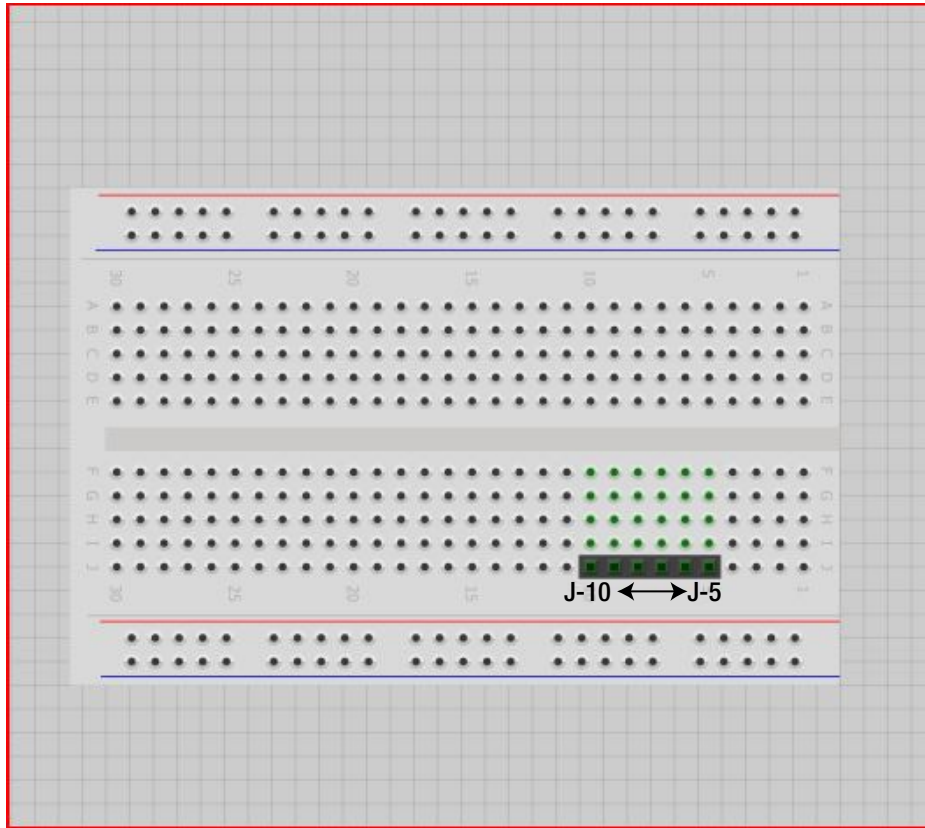

Figure 19-4. Attach the 6-pin-female-stackable-header to the solderless breadboard
2. Your first step is to attach the 6-pin-female-stackable-header to the solderless breadboard (J-5 through J-10), as illustrated in Figure 19-4.